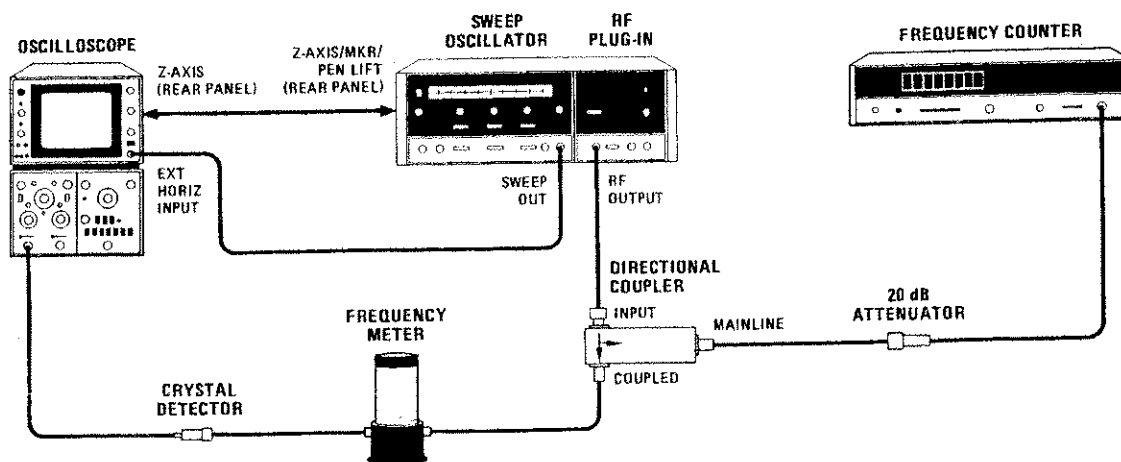

Figure 4-2. Swept Frequency Endpoint and Marker Accuracy Test Setup
- g. Connect equipment as shown in Figure 4-2. (Use HP 536A Frequency Meter for frequencies less than 4 GHz and HP 537A Frequency Meter for frequencies greater than 4 GHz.)